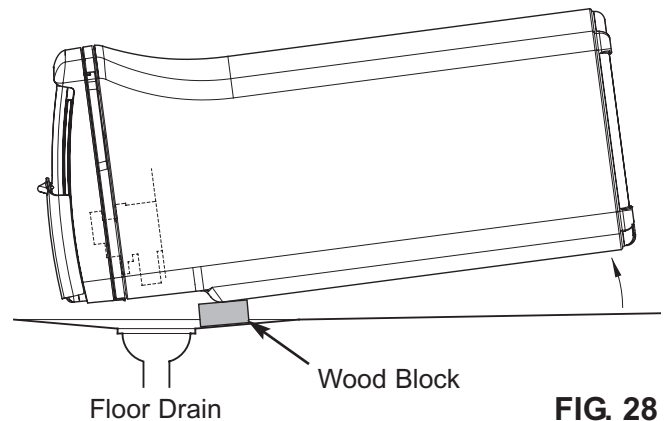

FIG. 28
6. Lay a piece of 2 inch thick board near the floor drain (See Figure 28).